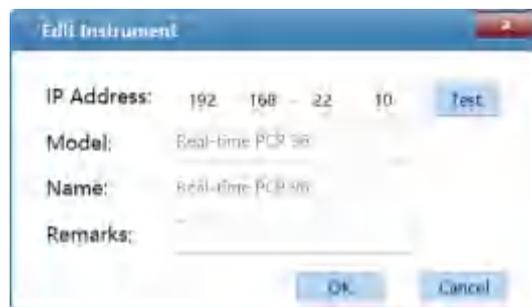

Figure D-2.2b Instrument Management interface - Edit Instrument window
- b. Click < **Edit** > and the Edit Instrument window will be automatically popped up; user can change the remarks of instrument in the **Remarks** input box, as shown in figure D-2.2b.